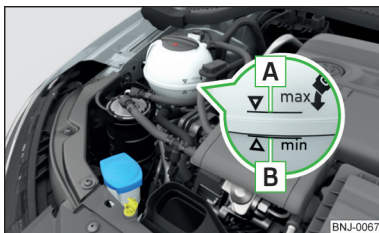

Fig. 171
Check the coolant level - The coolant level must lie between the marks A and B » Fig. 171. If the coolant level is below the mark B, top up with coolant.
The **specification** for the coolant is shown in the coolant expansion reservoir » Fig. 171.
- Do not fill the coolant above the mark A » Fig. 171. The coolant could, when heated, be expelled from the cooling system - risk of damage to the engine parts.